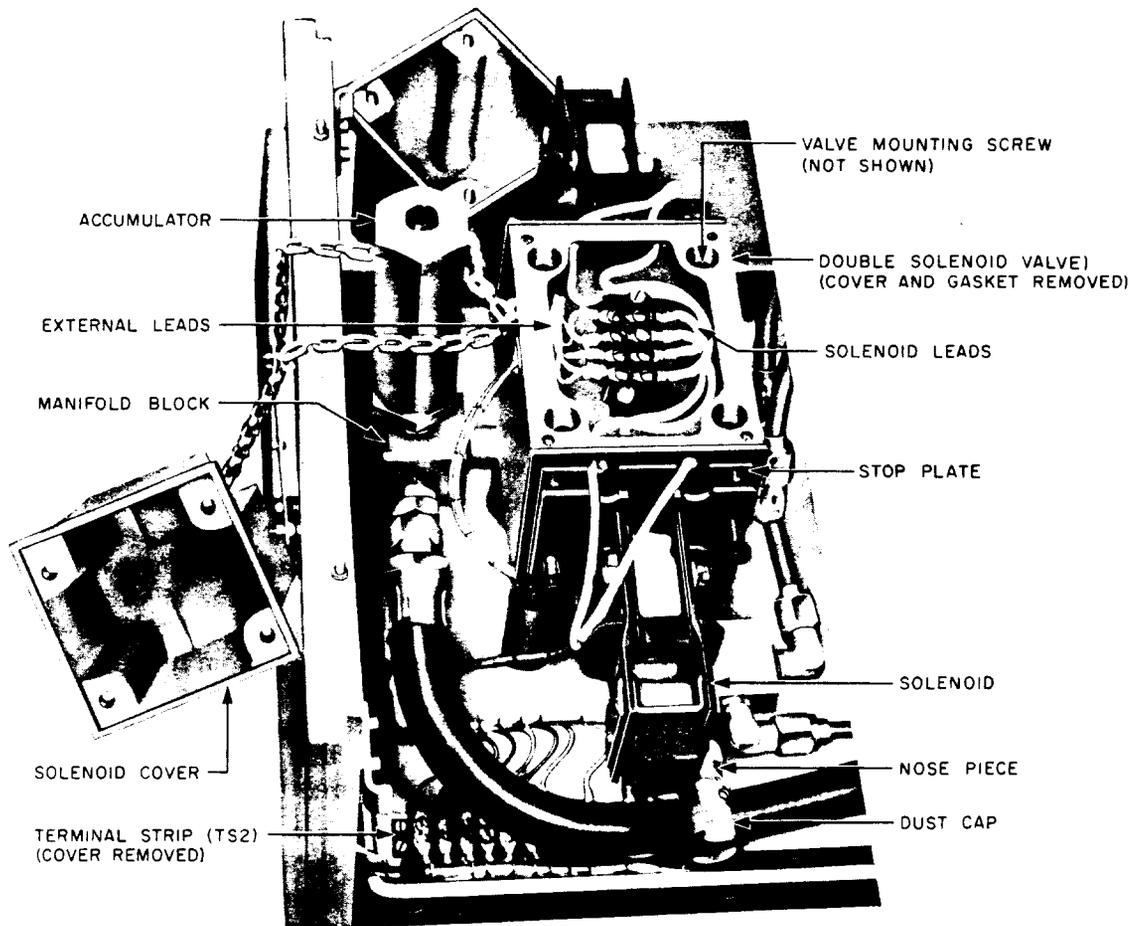

Fig. 23 – Hydraulic Shelf Assembly (partial view with double-solenoid valve cover and gasket removed)
3.28 Double-Solenoid Valve: Fig. 23 — The double-solenoid valve furnished initially had a single cover over the valve and solenoids. The double-solenoid valve furnished on later tools and for replacements has separate covers for each solenoid which are chained to the valve body. If a valve with a single cover is replaced, the top cover of the tool must be notched at the front and rear as covered in (5) to clear the covers of the new solenoid valve. To replace the valves, proceed as follows.
3.29 Solenoid of Double-Solenoid Valve: Fig. 23
— Individual solenoids of double-solenoid valves having a single cover cannot be replaced as they are not the same as those furnished for replacement. Therefore, if it is necessary to replace one of these solenoids, order a complete new double-solenoid valve of the type having separate covers for each solenoid, now furnished on the tool and shown in Fig. 23. Individual solenoids of this valve are replaceable as covered below.
(1) Remove the flat cover over the body of the valve using the 4-inch E screwdriver. Using the 3-inch C screwdriver, remove the solenoid leads from the terminal strip on the valve, noting the terminals to which they were connected.
(2) Remove the push pin in the end of the cover of the solenoid to be replaced. Using the 5-inch E screwdriver, loosen the captive screws mounting this cover sufficiently to remove the cover. Place the cover and chain by which it is secured to the valve body so that they are clear of the solenoid. Remove the solenoid guide screws using the proper size Allen wrench. Remove the solenoid.
(3) Before mounting the new solenoid, skin the solenoid leads approximately 3/4 inch from the ends using the KS-7139 pliers. Mount the new solenoid, making sure that the solenoid plunger is in place. Insert the guide screws and turn them in as far as they will go. Insert the solenoid leads through the openings in the end of the valve as shown in Fig. 23. Mount the solenoid covers and securely tighten the cover mounting screws. Remount the push pin in the cover. Dress the solenoid leads and connect them to the valve terminal strip. Wrap the leads clockwise around the proper terminal screws and securely tighten the screws. Remount the valve gasket and cover.
3.32 Nosepiece: Fig. 23 — To replace the nosepiece, fully drain the tank as covered in 3.06. Remove the solenoid directly above the nosepiece as covered in 3.29. Place a folded KS-14666 cloth beneath the nosepiece to catch any oil which may drip when the nosepiece is removed. Remove the nosepiece dust cap using the 3-inch C screwdriver. Hold the pipe in which the nosepiece is mounted with the R-1538 wrench and remove the nosepiece using the R-1542 wrench. Apply a small amount of KS-6824 sealing compound to the threads of the pipe, exercising care to keep the compound away from the ends of the threaded portion to avoid getting it into the hydraulic system. Securely mount the new nosepiece on the pipe. Remount the dust cap. Remount the solenoid as covered in 3.29. Remove the KS-14666 cloth.
(1) Remove the cover from the terminal strip (Fig. 23) using the 3-inch C screwdriver. Tag and disconnect the motor leads at the terminal strip, using the screwdriver. Disconnect the ground strap at the motor terminal coverplate, if provided, using the 565A offset screwdriver. Then loosen the setscrew of the driving member of the flexible coupling using the proper size Allen wrench, and slide this member back on the motor shaft to disengage the coupling from the nonmetallic member. Using the screwdriver, loosen the motor clamp screws and remove the clamps. Remove the motor.
(2) Using the screwdriver, remove the coverplate over the motor terminals of both the old and new motors. Using the 33 wrench, remove the leads from the motor to be replaced and transfer them to the corresponding terminals of the new motor. Remount the terminal coverplates on both motors and securely tighten the screws except the one used to fasten the ground strap if a ground strap was provided. Transfer the driving member of the coupling to the new motor. Remove the new motor from its mounting bracket by removing the clamps as covered in (1).
(3) Mount the new motor on the bracket on the hydraulic shelf with the oil cups up. Remount the motor clamps and securely tighten the clamp screws. Reconnect the coupling and securely tighten the setscrew of the driving member against the flat on the motor shaft. Connect the motor leads to the terminal strip. Remount the terminal strip cover. Connect the ground strap if provided. Check the motor and pump shaft alignment requirement as covered in Section 076-143-701.
3.39 Terminal Strip (TS2): Fig. 23 — To replace the terminal strip, remove the terminal strip cover using the 3-inch C screwdriver.